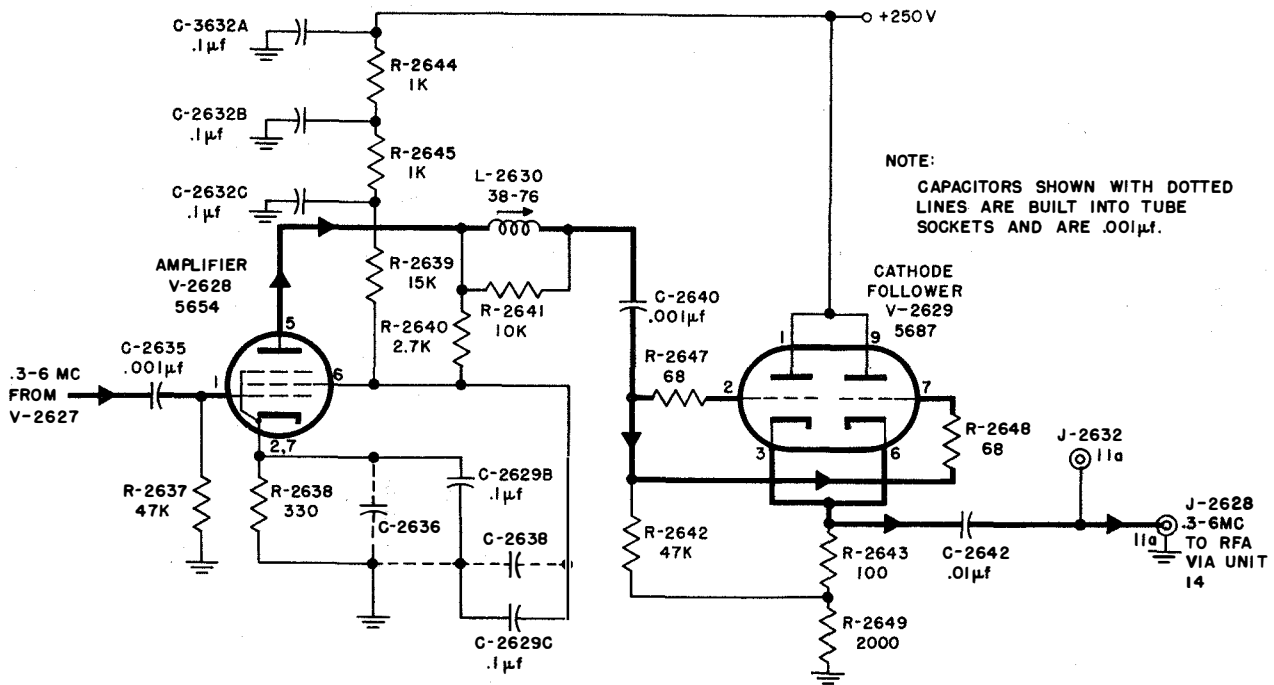

Figure 2-35. RFO Unit 11A, Amplifier V-2628 and Cathode Follower V-2629, Simplified Schematic
(3) CATHODE FOLLOWER V-2629.—To obtain sufficient drive (approximately two volts) for the RFA, a cathode follower output stage, V-2629 (figure 2-35), working into an impedance of approximately 50 ohms, is used as the output stage. Filter L-2631 attenuates spurious frequencies. The output (11a) is coupled by C-2642 to J-2628 and test point J-2632.